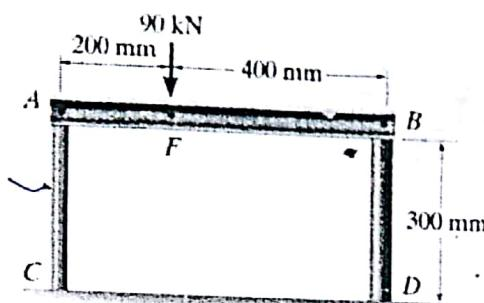

Fig. 1
- ✓ 1. Rigid beam  $AB$  rests on the two short posts shown in Fig. 1.  $AC$  is made of steel and has a diameter of 20 mm, and  $BD$  is made of aluminum and has a diameter of 40 mm. Determine the displacement of point  $F$  on  $AB$  if a vertical load of 90 kN is applied over this point. Take  $E_{st} = 200 \text{ GPa}$ ,  $E_{al} = 70 \text{ GPa}$  [ $\delta_F = 0.225 \text{ mm}$ ]